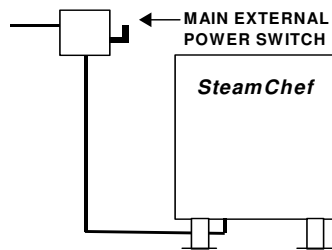

Figure 3-6
3. A main external disconnect switch should be installed near the SteamChef as shown in Figure 3-6.
- The fuse or breaker and disconnect switch combination is called the “Main External Power Switch.” See Figure 3-6.